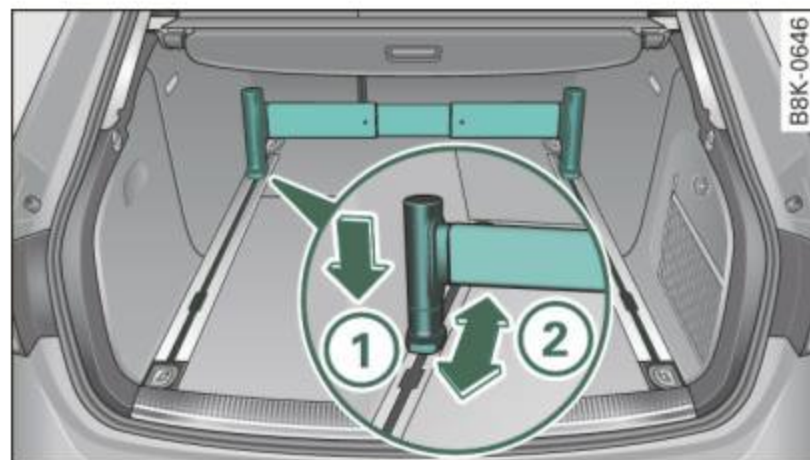

Fig. 91 Luggage compartment: Telescoping tracks
- Push the holder down ⇒ fig. 91 ① and at the same time, slide it into the desired position ②.
The securing strap can also be attached as needed on the right side of the track system instead of the telescoping track ⇒ fig. 91.